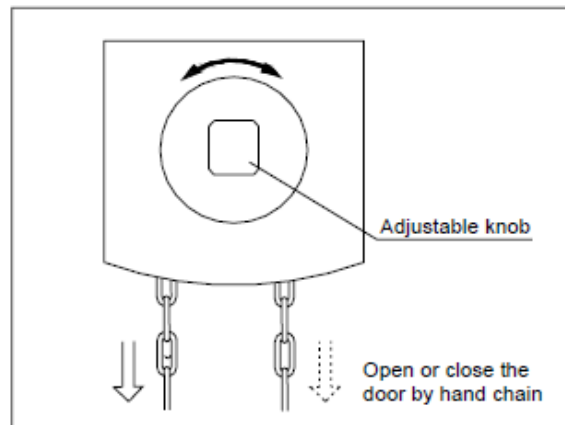

Fig. 9
- Tighten or loose the knob by rotating clockwise or anticlockwise until the hand chain can open or close the door easily. See Fig.9